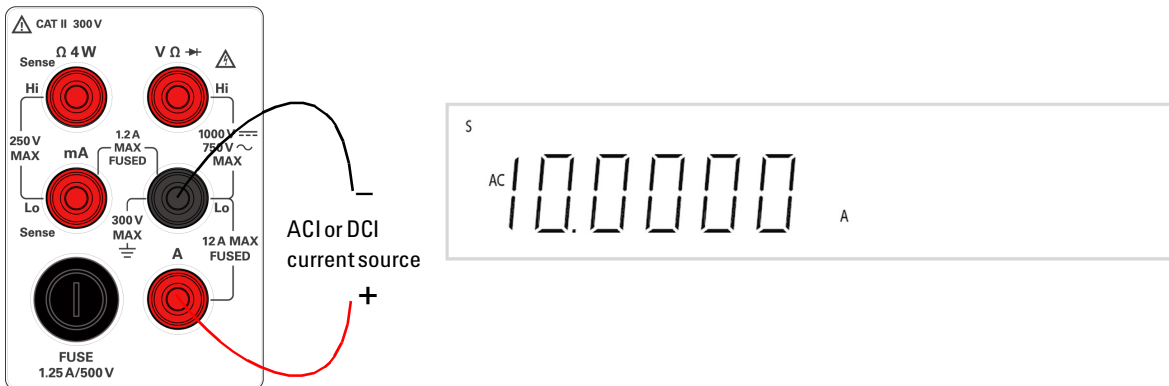

Figure 2-4 ACI RMS or DCI (A) terminal connection and display
- 3 Connect the red and black test leads to the A input terminal as shown in Figure 2-4.